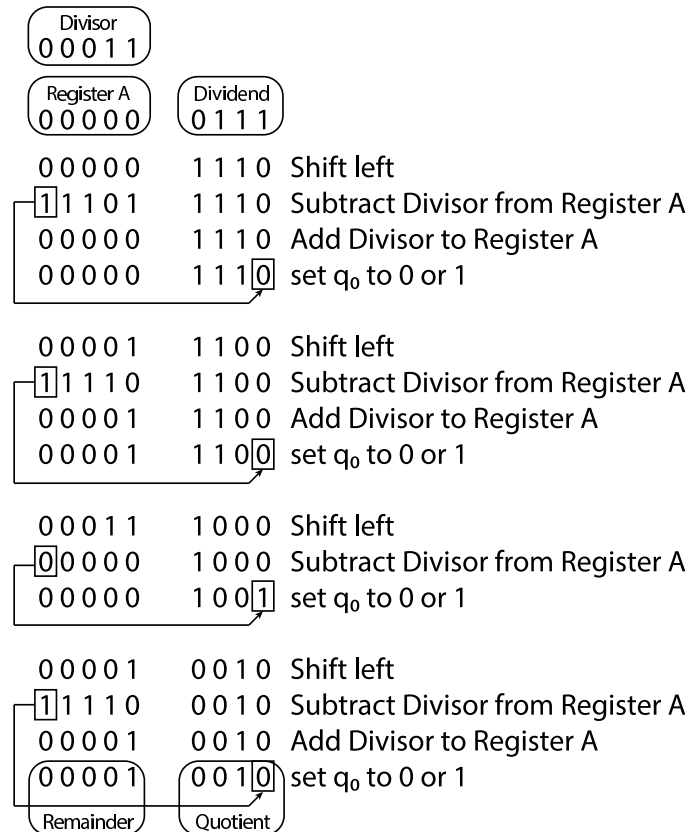
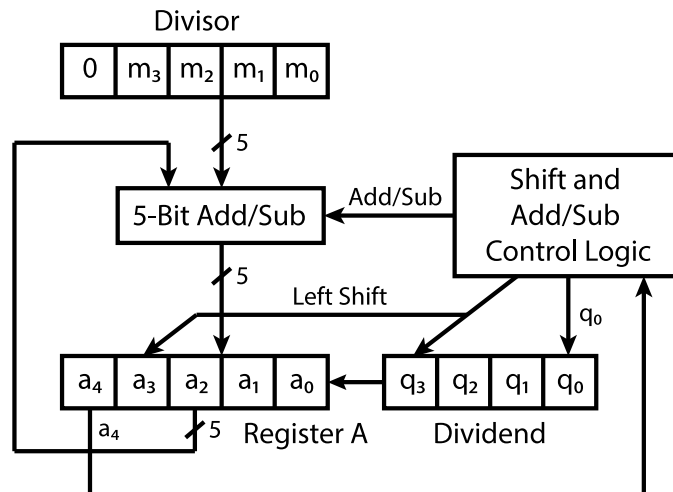

Figure 5: An example showing how the restoring divider works.
Figure 6: Block diagram of restoring divider.
Figure 5 shows an example of how the restoring divider works. This mimics what you do when you do long division by hand. In this specific example, number 7 (*Dividend*) is divided by number 3 (*Divisor*). The restoring divider starts with *Register A* set to 0. The *Dividend* is shifted left and the bit shifted out of the left most bit of the *Dividend* (called the most significant bit or MSB) is shifted into the least significant bit (LSB) of *Register A* as shown in Figure 6.
1. Draw a schematic for the datapath of your circuit. It will be similar to Figure 6. You should show how you will initialize the registers, where the outputs are taken, and include all the control signals that you require. **(PRELAB)**